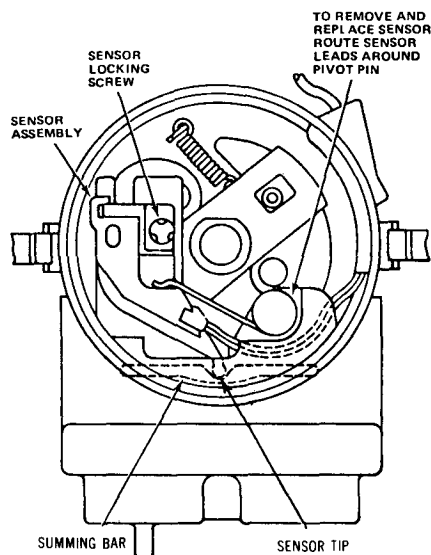

FIG. 27-REMOVAL/INSTALLATION OF SENSOR ASSEMBLY
Lift the sensor grommet out of the distributor bowl. Pull sensor leads out of the slot around the sensor spring pivot pin (Figure 27). Lift and release sensor spring, making sure it clears the leads, then slide the sensor off the bracket.
(5) Clean dirt or grease off of the vacuum chamber bracket. Clean and dry sensor and bracket. The material used for sensor and vacuum chamber requires no lubrication.
(6) Assemble either cleaned "old" sensor or new replacement sensor, sensor guide, flat washer and retaining screw. Install retaining screw only far enough to hold assembly together and be sure it does not project beyond the bottom of the sensor.
(7) Install sensor assembly on vacuum chamber bracket, making certain that tip of sensor is located properly in summing bar (Fig. 27.). Place sensor spring in proper position on sensor. Then route sensor leads around spring pivot pin. Install sensor lead grommet in distributor bowl, and make certain leads are positioned so that they cannot be caught by the trigger wheel.